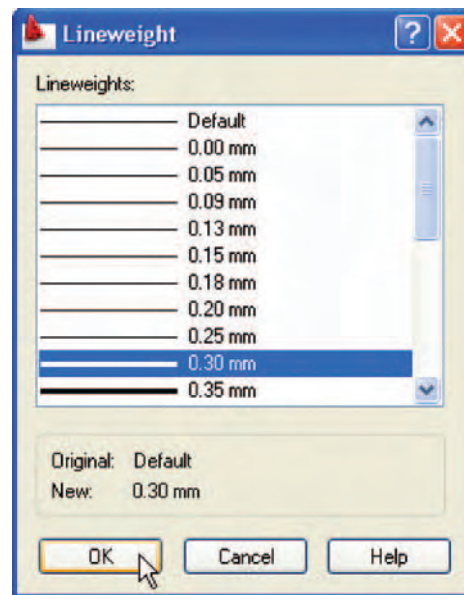

Fig. 4.20 The Lineweight dialog
7. Click on any of the lineweights in the **Layer Properties Manager**. This brings up the **Lineweight** dialog (Fig. 4.20). Select the lineweight **0.3**. Repeat the same for all other layers. Then click the **Close** button of the **Layer Properties Manager**.